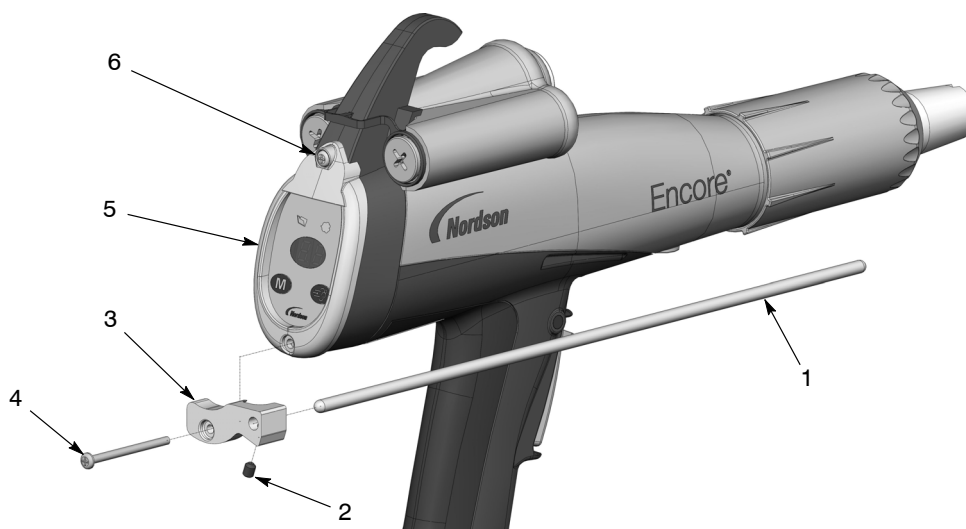

Figure 2 Installing the Ion Collector Kit on an Encore Spray Gun with a nLighten.
1. See Figure 2. If installing the ion collector on a Encore LT or Encore PE manual spray gun, remove the two screws securing the rear gun housing and install the shield bezel (5) as shown. Secure with the M3 x 35 mm long pan head screw (6) in the top hole as shown.
2. Install the rod bracket (3) on the shield bezel (5) and secure with the 40 mm pan-head screw (4).
3. Slide the collector rod (1) through the bracket.
4. Install the set screw (2) into the rod bracket. Do not tighten it until you have adjusted the position of the end of the collector rod.
1. See Figure 2. Slide the collector rod (1) back through the rod bracket (3) until the end is 102-127 mm (4-5 in.) from the front end of the spray gun.
2. Start the powder coating system. While coating parts, slide the collector rod forward until the current shown on the control unit display is 5 to 7  $\mu\text{A}$  higher than the current values recorded before the kit was installed. Tighten the set screw (2) to secure the rod.